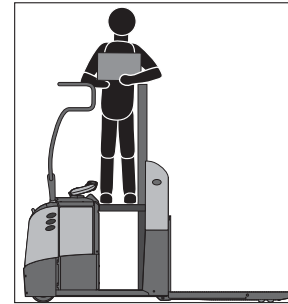

Fig. 25 Operator on platform
- On the Optional Platform, (Fig. 25)